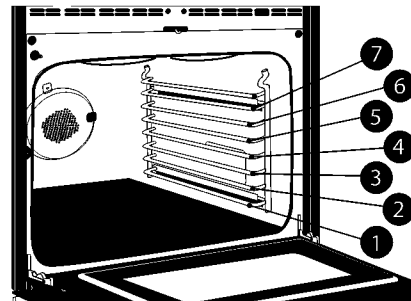

Figure 16: Rack positions
- When using a flat rack with a glide rack, use position 7 for the flat rack and 2 for the glide rack, or place the flat rack in position 2 and the glide rack in position 6.(Figure 16)